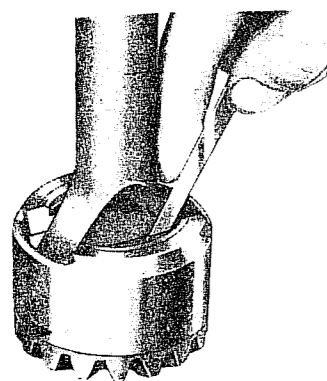

Fig. F.11. Measuring the axle shaft to fulcrum plate clearance. - Swing axle.
3. Place the fulcrum plates in the differential gear with the end of the axle shaft between them. Measure the clearance between the flat faces of the shaft end and the fulcrum plates (Fig. F 11). The clearance should be 0.1 - 0.3 mm (0.004" - 0.012").